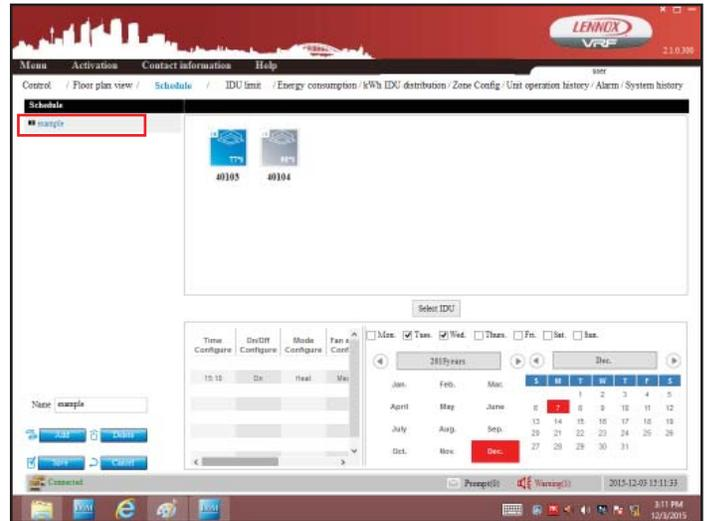

Figure 34. Select Schedule to Delete
1. Tap the schedule to be deleted from the list on the left column. See figure 34